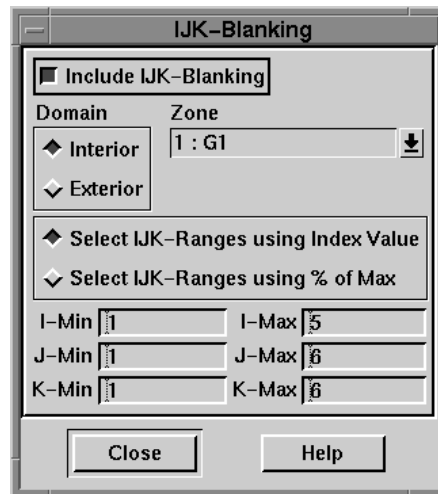

Figure 27-7. The IJK-Blanking dialog.
1. From the Style menu, choose IJK-Blanking. The IJK-Blanking dialog appears as in Figure 27-7.